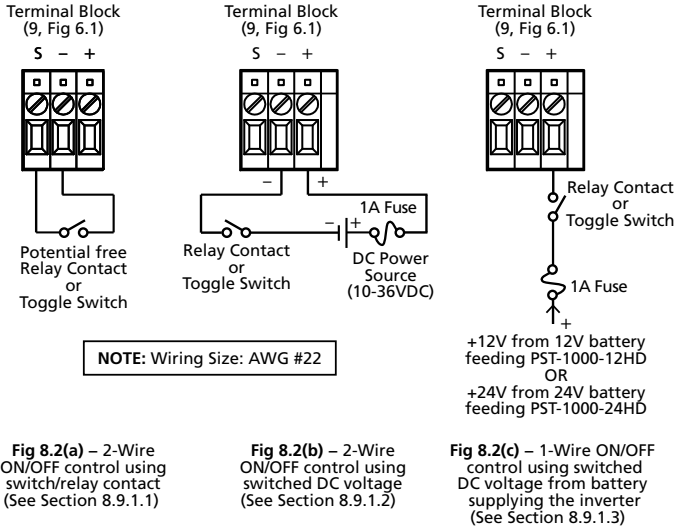

Fig. 8.2: ON/OFF Control from Remote Location using External 2-Wire or 1-Wire Control
- b) Power on the inverter using one of the 3 On/Off Control Options shown in Fig 8.2(a) to 8.2(c)
The unit can be switched ON/OFF from a remote location using external, wired ON/OFF control options as shown in Fig 8.2(a), (b) and (c) and associated details at Sections 8.9.1.1 to 8.9.1.3.
8.9.1.1 2-Wire ON/OFF Control from Remote Location Using Switch/Relay Contact, Fig 8.2(a):
8.9.1.2 2-Wire ON/OFF Control Using Switched DC Voltage (10-36VDC), Fig 8.2(b):
8.9.1.3 1-Wire ON/OFF Control Using Switched DC Voltage from the Battery Supplying the Inverter, Fig 8.2(c) :